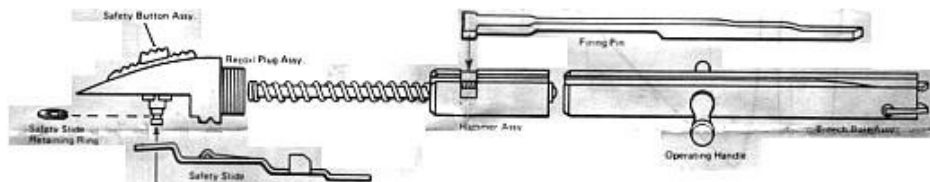

FIGURE 4
**SAFETY WARNING** **IMPORTANT** — Uncock gun by pulling Trigger to remove pressure of Hammer Spring against Recoil Plug. Unscrew Recoil Plug and draw out Recoil Plug, Hammer and Firing Pin. Remove Operating Handle which was retained by Firing Pin. Hold Trigger back and slide Breech Bolt out rear of receiver. See Figure 4.